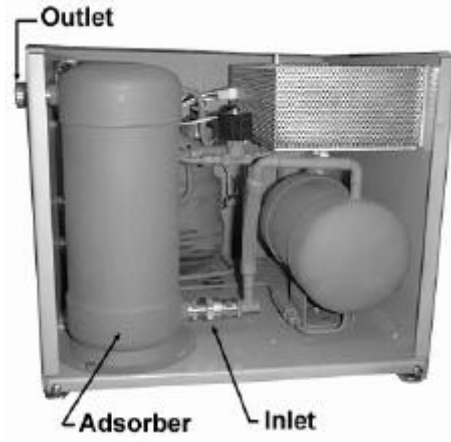

Figure 4.1 Adsorber Replacement
4. Remove the adsorber from the compressor unit according to Figure 4.1. Save all nuts, bolts and washers for installing the replacement adsorber.
- c. Install the replacement adsorber as shown in Figure 4.1, in reverse order. Use the hardware saved in step 4 above.